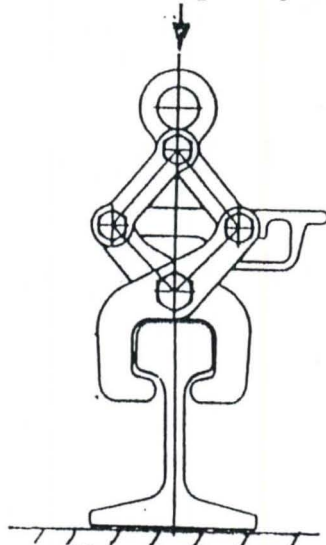

Fig. 7
6. During transporting, do not hit clamp and rail to obstacles. When reached the destination, wind the crane hook down as shown in Fig. 7 and land rail slowly. (Make sure that the land has been completely stabilized)